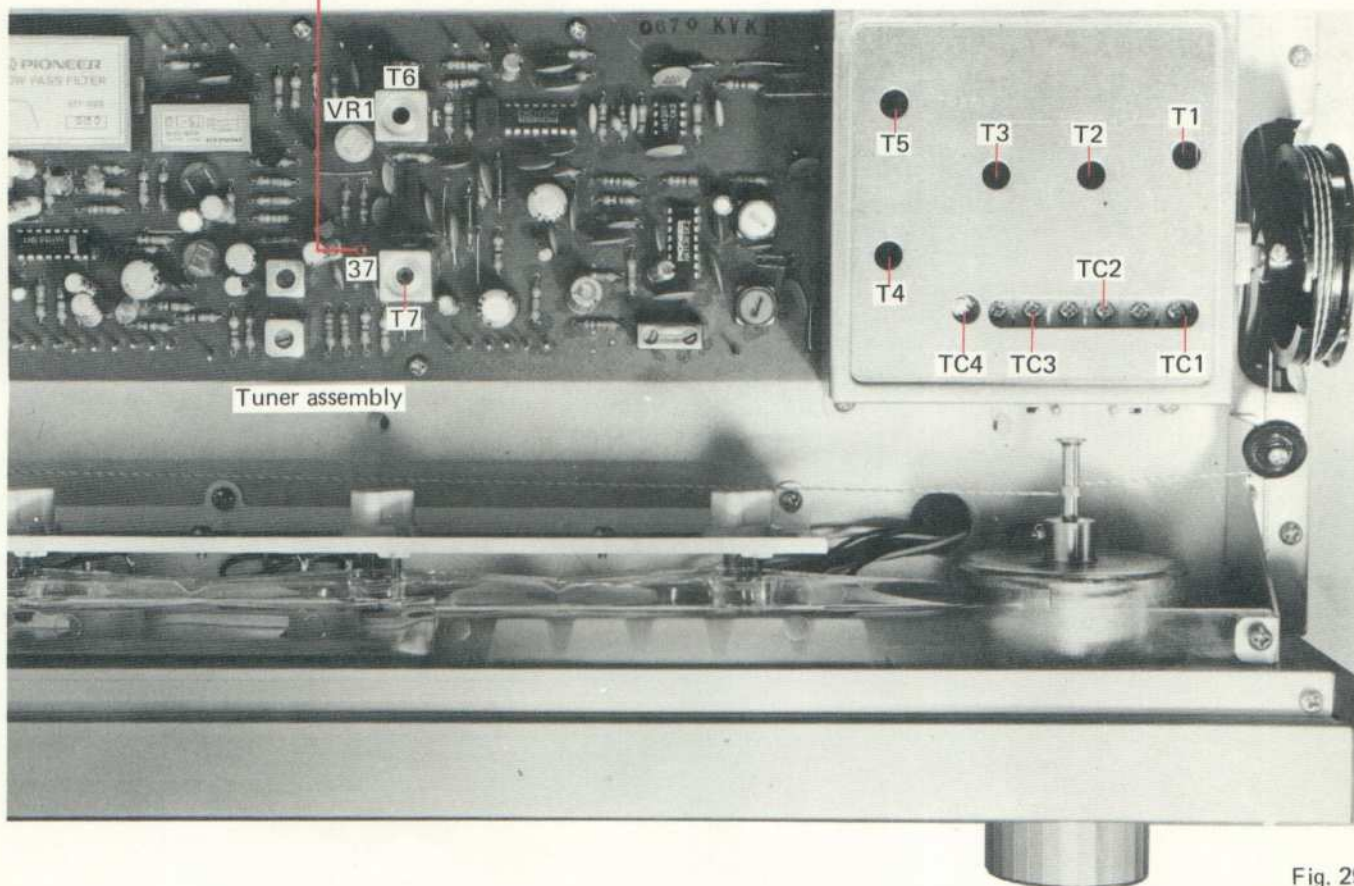

Fig. 29
1. Connect measuring equipment as shown in Fig. 29.